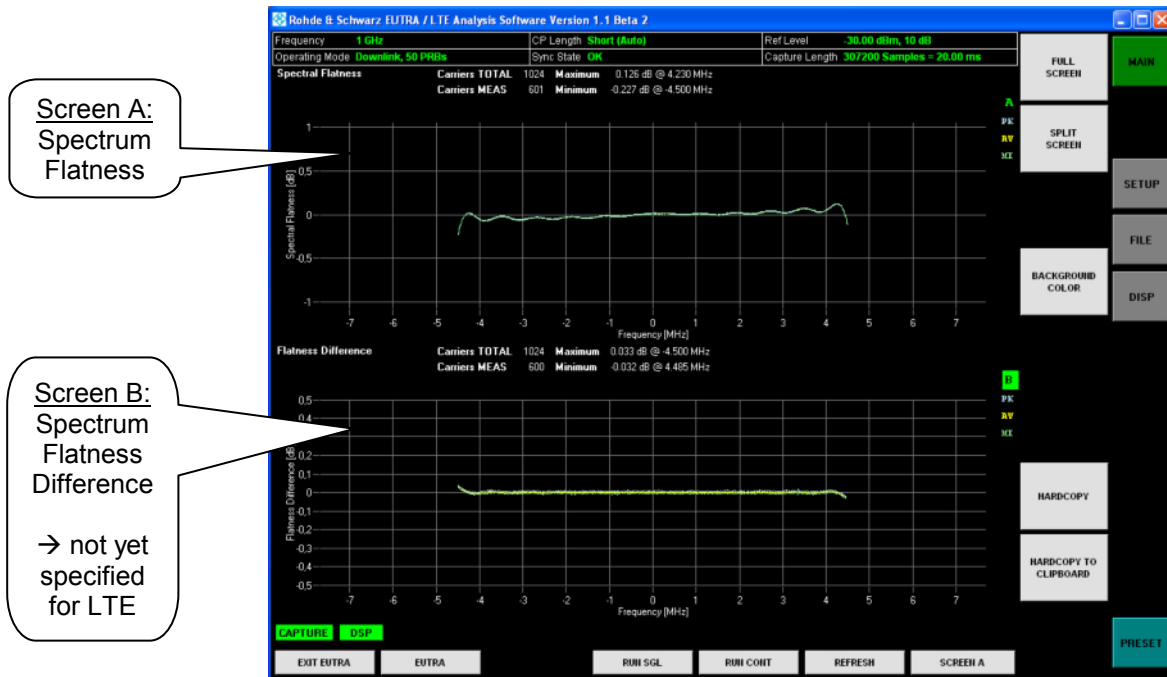

Figure 4-12 Analyzing EUTRA/LTE DL signals – Spectrum Flatness and Flatness Difference
8. Spectrum: Flatness Difference (Figure 4-12: Screen B)